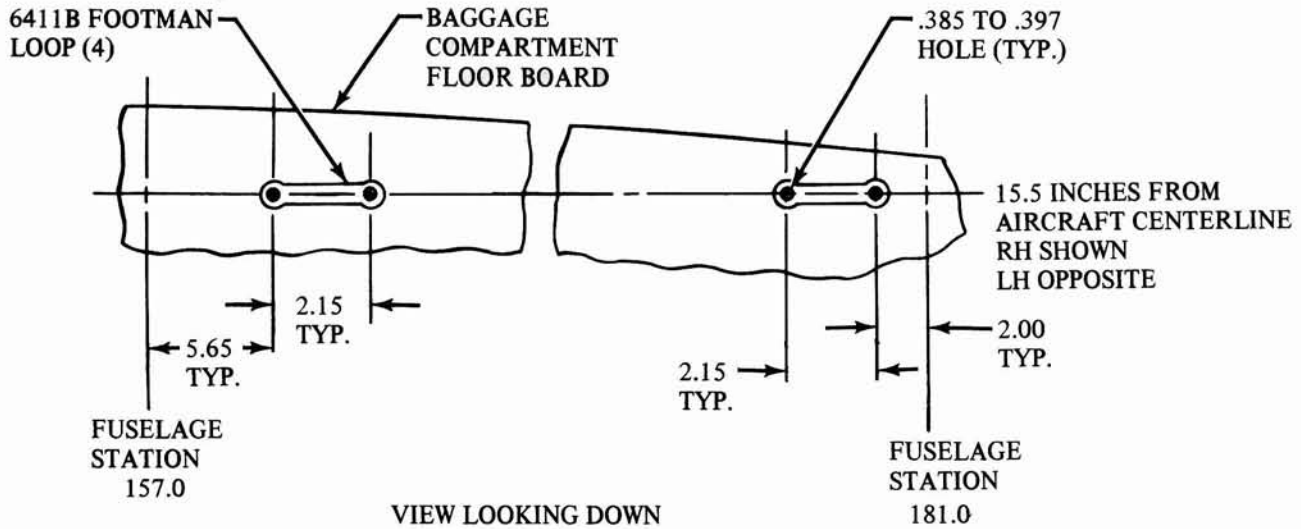

Figure 2. Baggage Provision
1. Drill (8) .385 to .397 inch diameter holes through the baggage compartment floorboards to install rivnuts for the footman loops shown in Figure 2.
2. Remove the wooden floorboards as necessary and install rivnuts, P/N S10K80, in the (8) previously drilled holes in the metal flooring.